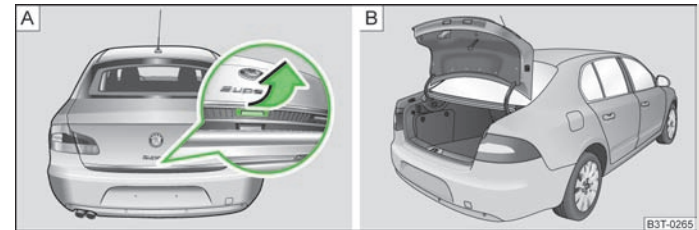

Fig. 18 Handle of boot lid/opened small boot lid
■ The small boot lid » Fig. 18 can be opened after unlocking the vehicle.
► Press on the handle at the bottom side of the boot lid » Fig. 18 - [A] and the boot lid lifts up automatically » Fig. 18 - [B].